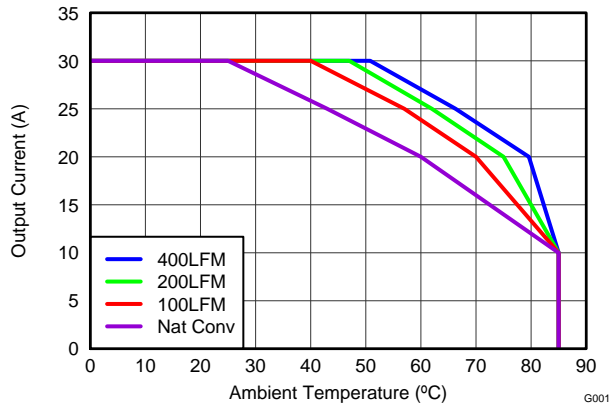
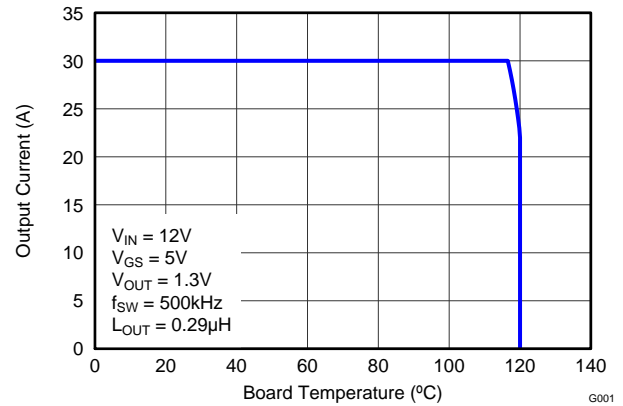

Figure 3. Safe Operating Area – PCB Horizontal Mount ⁽¹⁾
Figure 4. Typical Safe Operating Area ⁽¹⁾
The SOA curves in the CSD87384M data sheet provide guidance on the temperature boundaries within an operating system by incorporating the thermal resistance and system power loss. Figure 3 to Figure 4 outline the temperature and airflow conditions required for a given load current. The area under the curve dictates the safe operating area. All the curves are based on measurements made on a PCB design with dimensions of 4 inches (W) x 3.5 inches (L) x 0.062 inch (T) and 6 copper layers of 1-oz. copper thickness.